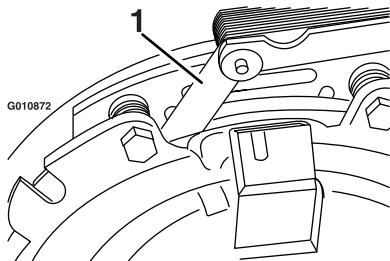
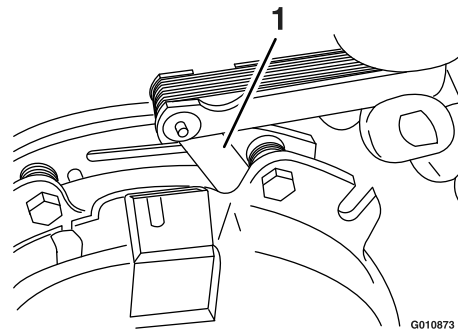

Figure 70
Figure 71
- E. Using a 0.25 mm (0.01 inch) thick feeler gauge, verify that a gap is present between the rotor and the armature face on both sides of the brake pole as shown in Figure 70 and Figure 71.